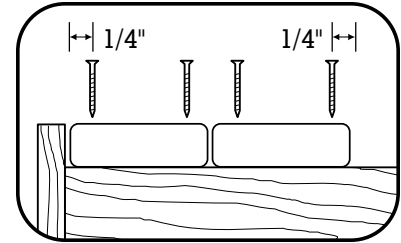

Fig. 14
- Run each screw 1/4" from the outside edge of each plank, using two screws per joist (Fig. 14).